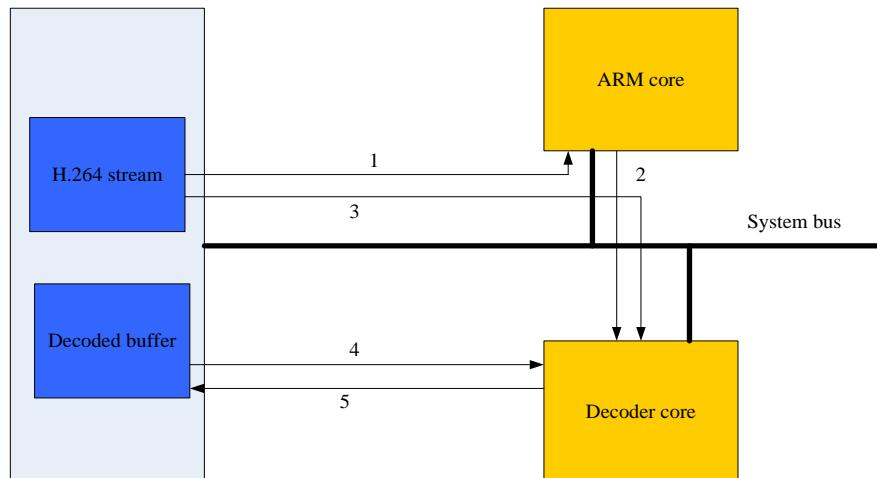

Fig. 5-4 Dataflow of HW performs entropy decoding in video decoder
The dataflow of HW performs entropy decoding is as Fig. 5-4 shown. The decoder software (SW) starts decoding the first picture by parsing the stream headers (1). Software then setups the hardware control registers (picture size, stream start address etc.) and enables the hardware (2). Hardware decodes the picture by reading stream (3) and the reference pictures (required for inter picture decoding)(4) from the external memory. Hardware writes the decoded output picture to memory one macroblock at a time (5). When the picture has been fully decoded the hardware has run out of stream data, it gives an interrupt with a proper status flag and provides stream and address for software to continue and returns to initial state.